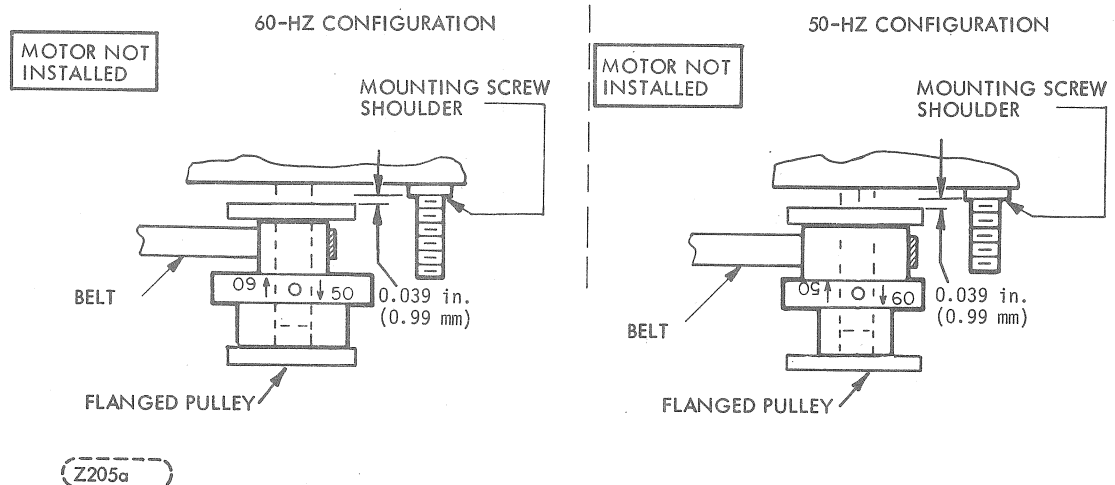

Figure 6-13. Drive-Pulley Reversal
- f. Position pulley allowing tolerance of 0.039 in. (0.99 mm) $\pm$ 0.10 in. (0.254 mm) between shoulder of motor mounting screws and pulley (Figure 6-13).